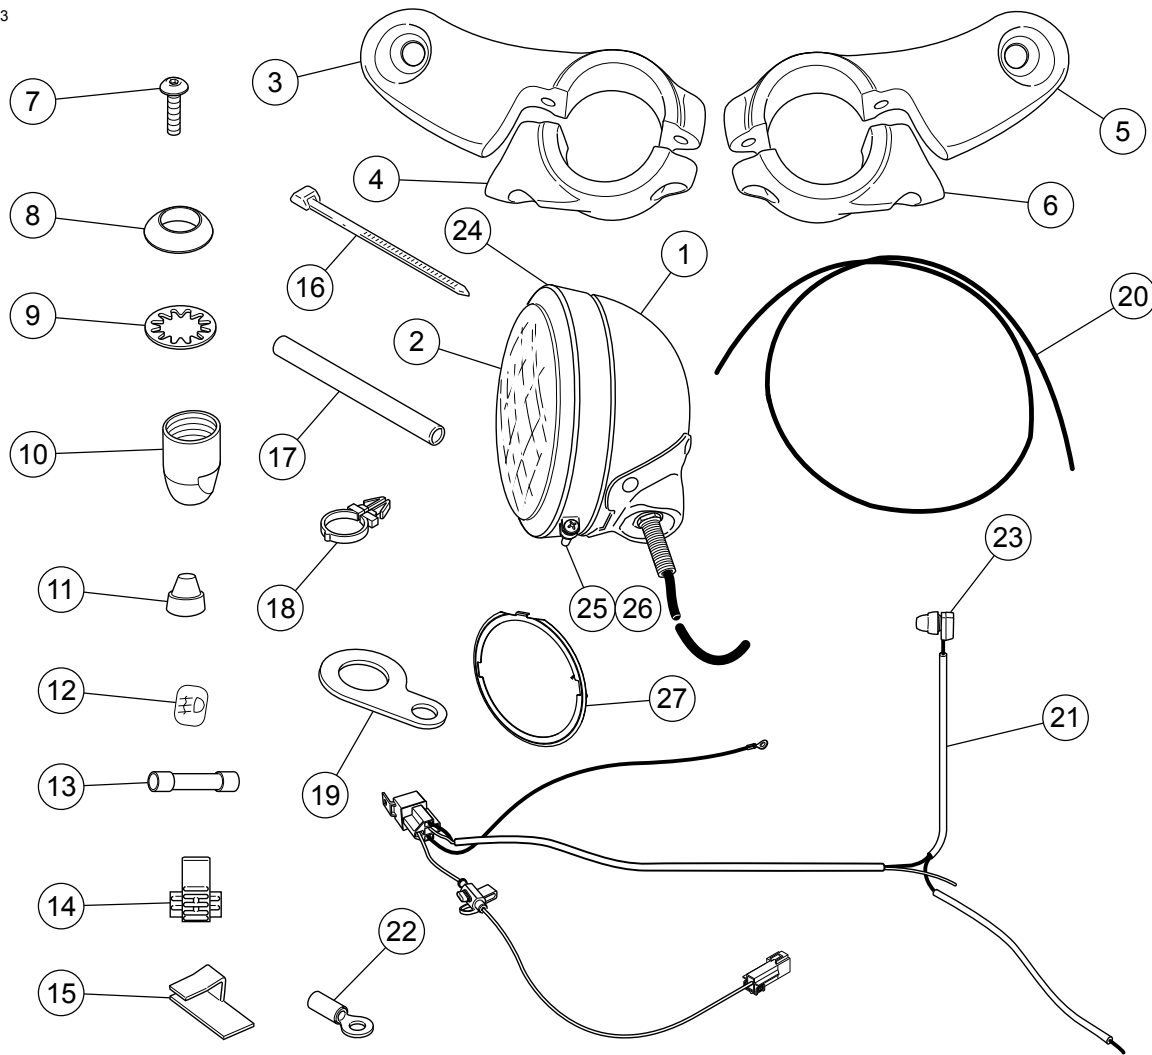

Figure 11. Service Parts
6. See Figure 11. Locate the outer trim ring (24), inner nesting ring (27), screw (25), and nut (26).
14. See Figure 11. Obtain the switch mounting bracket (Item 19) from the kit. Unscrew the boot from the lamp switch, and install the switch into the bracket. Replace the boot on the switch.
16. See Figure 11. Secure the lamp switch leg of the harness to the handlebar using the wire harness retainers (Item 18) as needed. Snap the retainers into the holes in the handlebar.